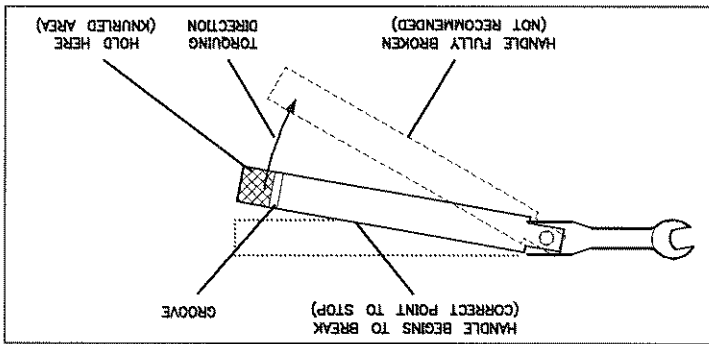

Figure 3-27. Tighten Only to the Torque Wrench Break Point
d. Tighten the connection just to the torque wrench "break" point (the wrench handle gives way at its internal pivot point. See Figure 3-27). Do not tighten the connection further.